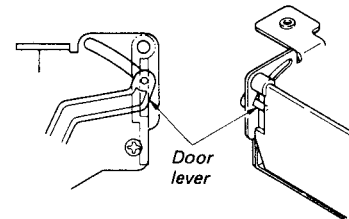

Fig. 1-3-4 Door replacement (3)
7. Insert the left door shaft into the guide bracket while warping the door slightly forward. In this case, make sure that the door lever pin is positioned as shown in Fig. 1-3-4.